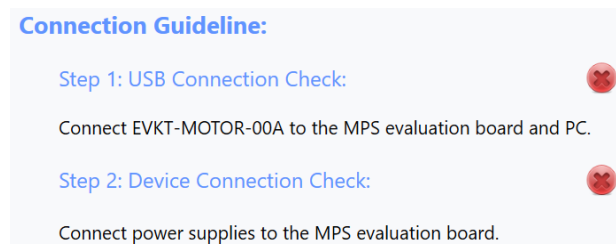

Figure 6: USB Connection Failure
- c. If the USB connection is not successful, the GUI's home page should display two red lights (see Figure 6).